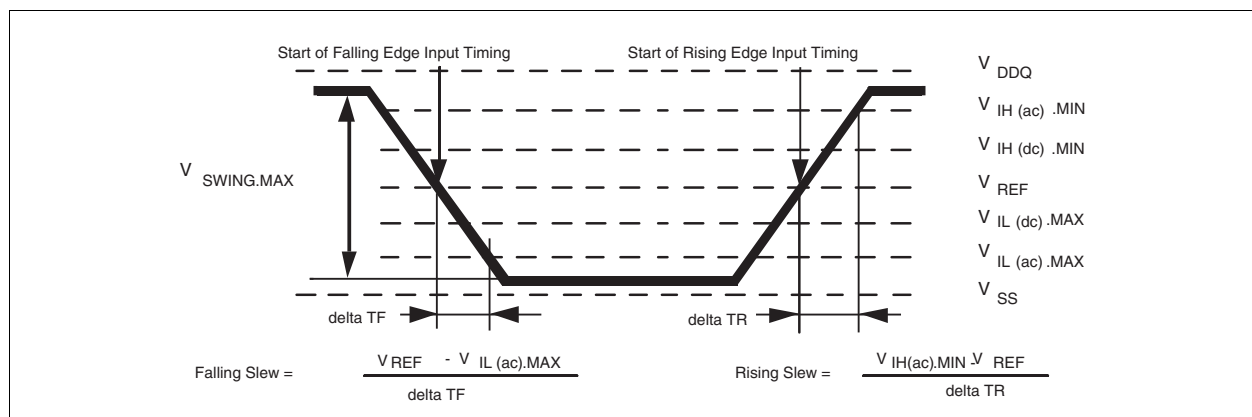

Figure 60 Single-ended AC Input Test Conditions Diagram
- 2) The input signal minimum Slew Rate is to be maintained over the range from $V_{IH(ac).MIN}$ to V_{REF} for rising edges and the range from V_{REF} to $V_{IL(ac).MAX}$ for falling edges as shown in Figure 60.